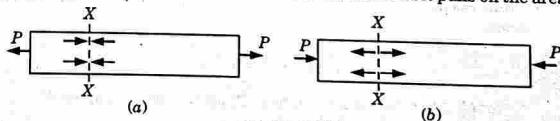

Fig. 1.1.1.
- The stress induced in a body, when subjected to two equal and opposite pulls as a result of which there is an increase in length, is known as tensile stress (Fig. 1.1.1(a)).
- The stress induced in a body, when subjected to two equal and opposite pushes as a result of which there is a decrease in length of the body, is known as compressive stress (Fig. 1.1.1(b)).